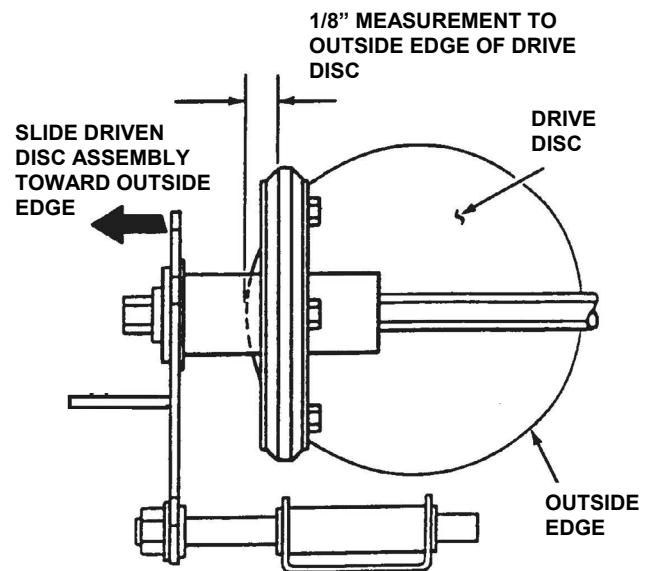

FIGURE 4.10
3. Slide driven disc assembly over to 1/8" from outside edge of drive disc. See Figure 4.10.